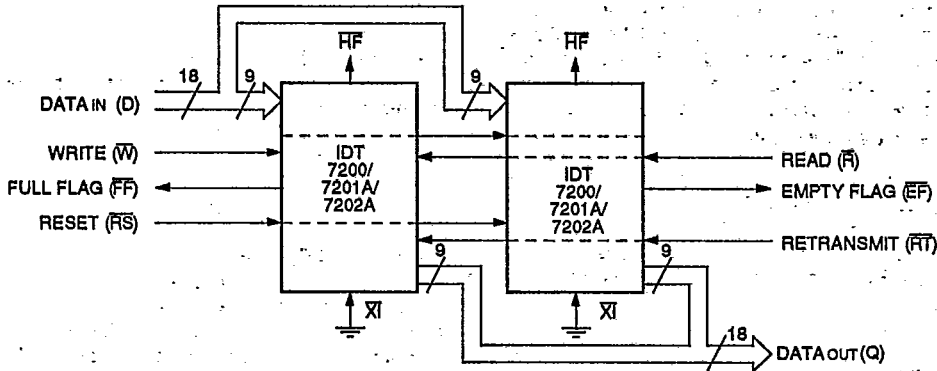

Figure 13. Block Diagram of 256/512/1024 x 18 FIFO Memory Used in Width Expansion Mode
Word width may be increased simply by connecting the corresponding input control signals of multiple devices. Status flags ( $\bar{EF}$ ,  $\bar{FF}$  and  $\bar{HF}$ ) can be detected from any one device. Figure 13 demonstrates an 18-bit word width by using two IDT7200/7201A/7202As. Any word width can be attained by adding additional IDT7200/7201A/7202As (Figure 13).
2. For flag detection see section on Width Expansion and Figure 13.